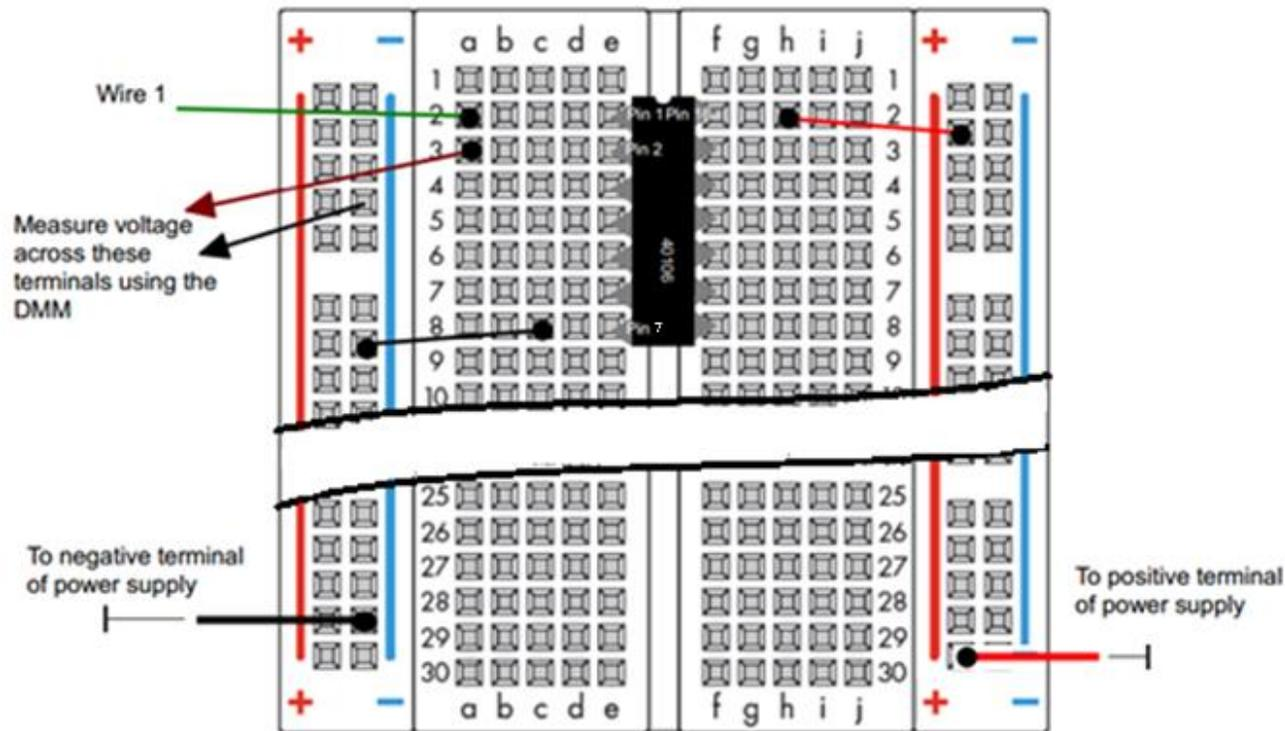

Figure 2: Physical diagram for the testing of an inverter chip.
- ✓ Build the circuit shown in Figure 2 but do **not** connect to the power supply yet.